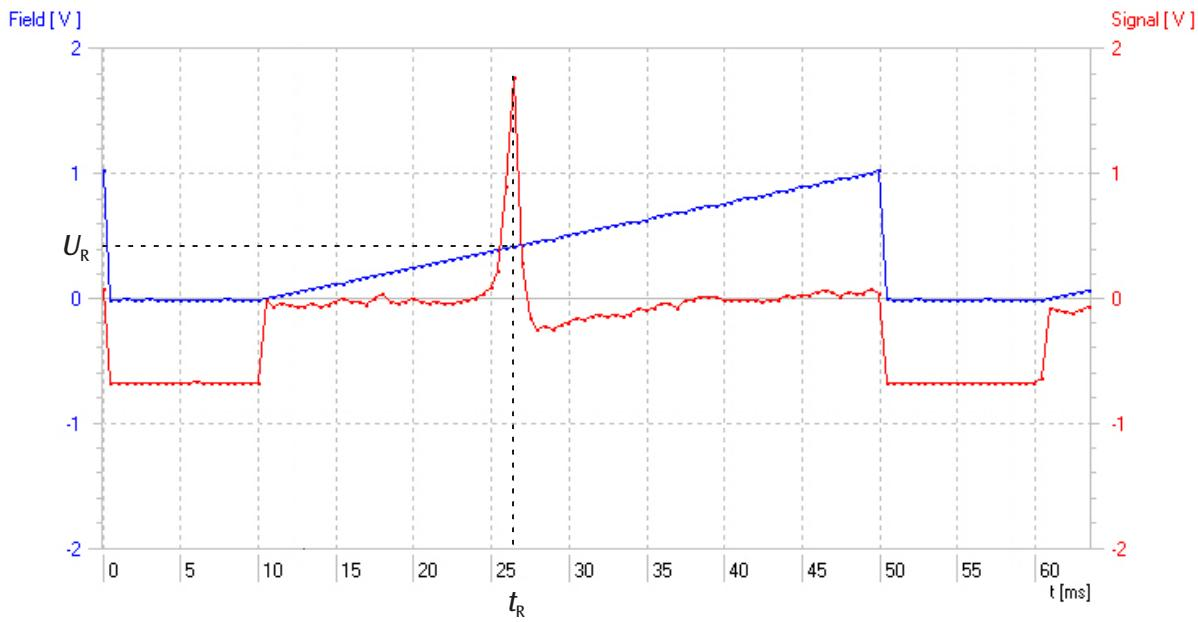

Fig. 6 Signal trace at 40 MHz (red: absorption signal as a function of time, blue: coil voltage as a function of time)
- Note down the resonance voltage of the coil  $U_R$  and the corresponding resonant frequency  $v_R$  (see Fig. 6).